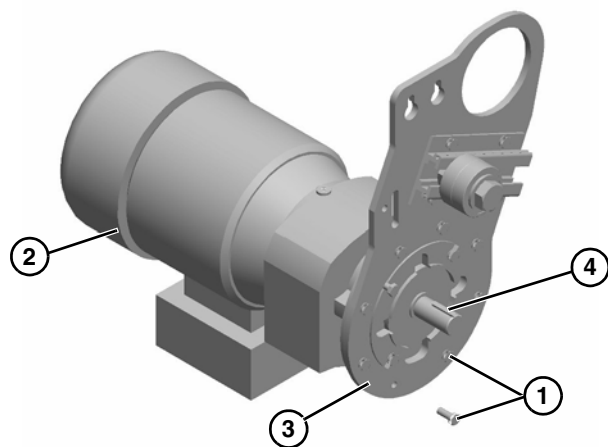

Figure 19
6. Remove eight (8) bolts (**Figure 19, item 1**). Detach motor (**Figure 19, item 2**) from the mounting plate (**Figure 19, item 3**). Retain motor output shaft key (**Figure 19, item 4**).